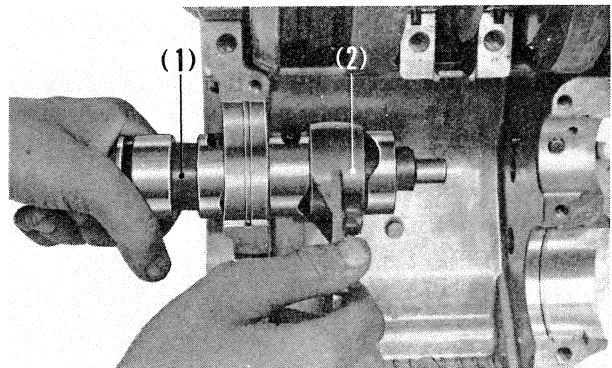

Fig. 4-89 (1) Gearshift drum
- Set the drum to the gearshift fork B as shown in Fig. 4-89.